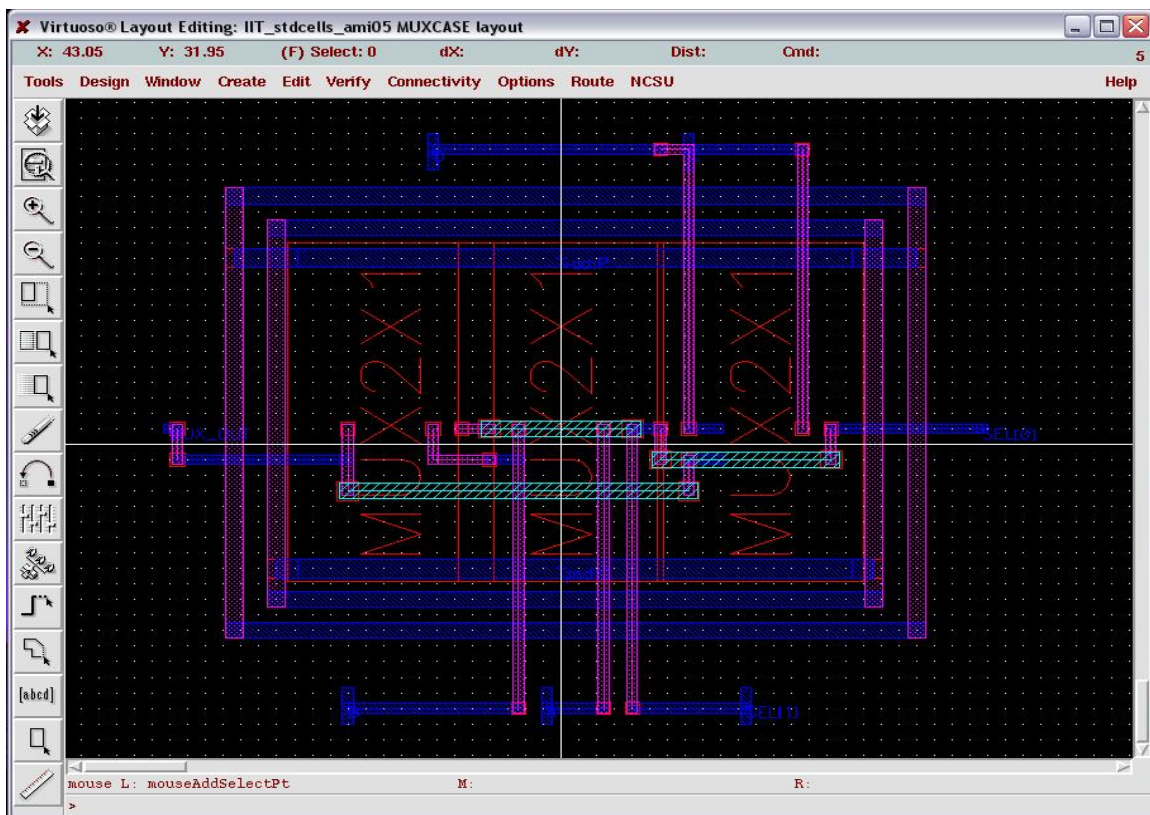

Figure 22: Initial Virtuoso Layout
11. In the *Library Manager*, open the layout view of the **MUXCASE** cell in the *IIT_stdcells_ami05* library. (If you cannot see the **MUXCASE** cell, select **View >> Refresh** to refresh the window). You will see some routing and three mux cells (Fig 22).